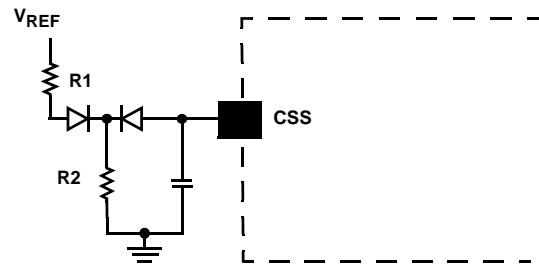

FIGURE 4. REFERENCE-BASED CLAMP CIRCUIT
- Per Equation 3, the clamping voltage is a function of the charge current  $I_{ss}$ . For a more predictable clamping voltage, the CSS pin can be connected to a reference based clamp circuit, as shown in Figure 4. To make the  $V_{clamp}$  less dependent on the soft-start current ( $I_{ss}$ ), the currents flowing through R1 and R2 should be scaled much greater than  $I_{ss}$ . The relationship of this circuit can be found in Equation 4.